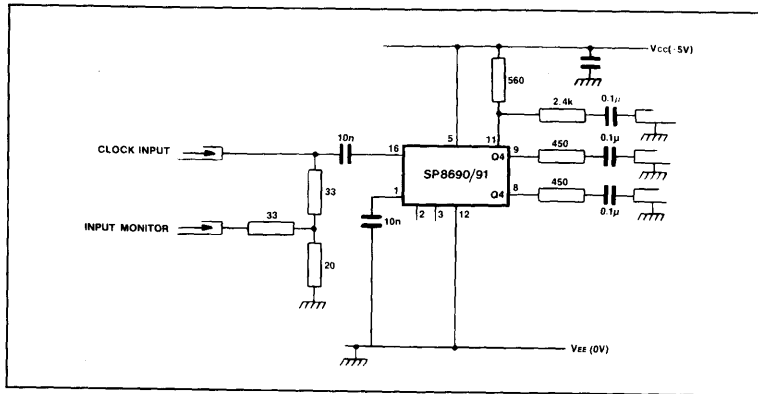

Fig.8 Test circuit for dynamic measurements
8. The rise/fall time of the open collector output waveform is directly proportional to load capacitance and load resistor value. Therefore load capacitance should be minimised and the load resistor kept to a minimum compatible with system power requirements. In the test configuration of Fig.8 the output rise time is approximately 10ns and fall time is 7ns typically.